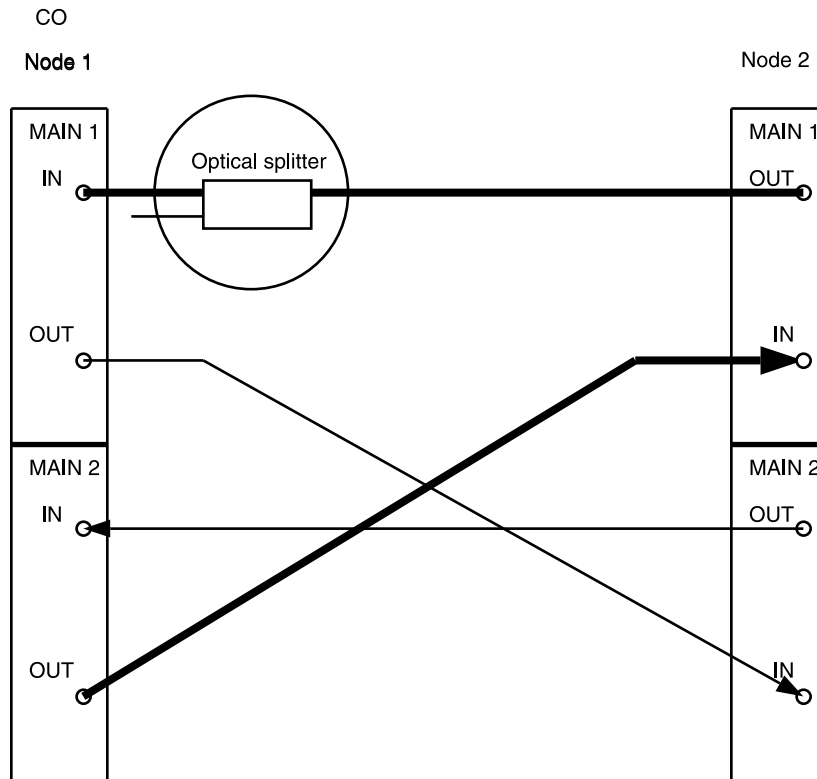

Figure 9 – DDM-2000 OC-3 Point-to-Point to Ring Upgrade
19. At Node 1, install optical splitter in optical line between Node 1 **MAIN 1 IN** and Node 2 **MAIN 1 OUT** as shown in Figure 9.